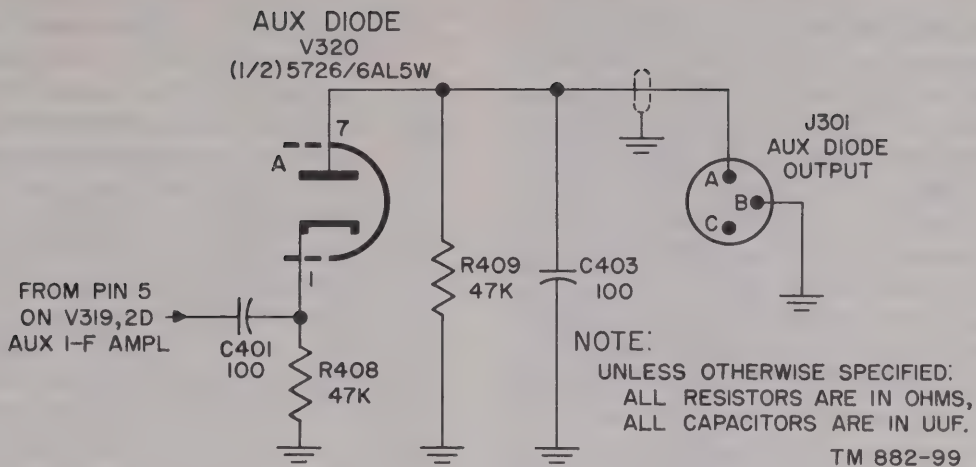

Figure 50. Auxiliary diode.
c. Auxiliary Diode (fig. 50). One-half of twin diode V320 is used as an auxiliary detector. The other half of tube V320B is the carrier meter rectifier. Resistor R408 is the cathode resistor. The signal from second auxiliary if. amplifier V319 is coupled to V320 through C401, and the output voltage is developed across R409 and C403. The rectified output of approximately 5 volts is available at J301, AUX. DIODE OUTPUT jack on the rear apron of the main unit (fig. 12). This